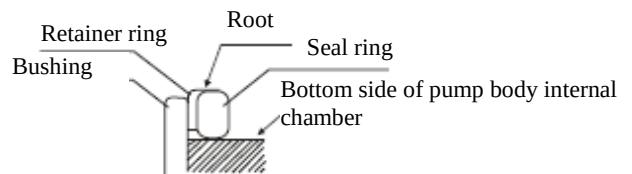

Fig. 5-24 Bushing Seal
(3) Assembly
- (e) Install a new seal ring and a new retainer ring in the groove of rear end cover. (see Fig. 5-24)